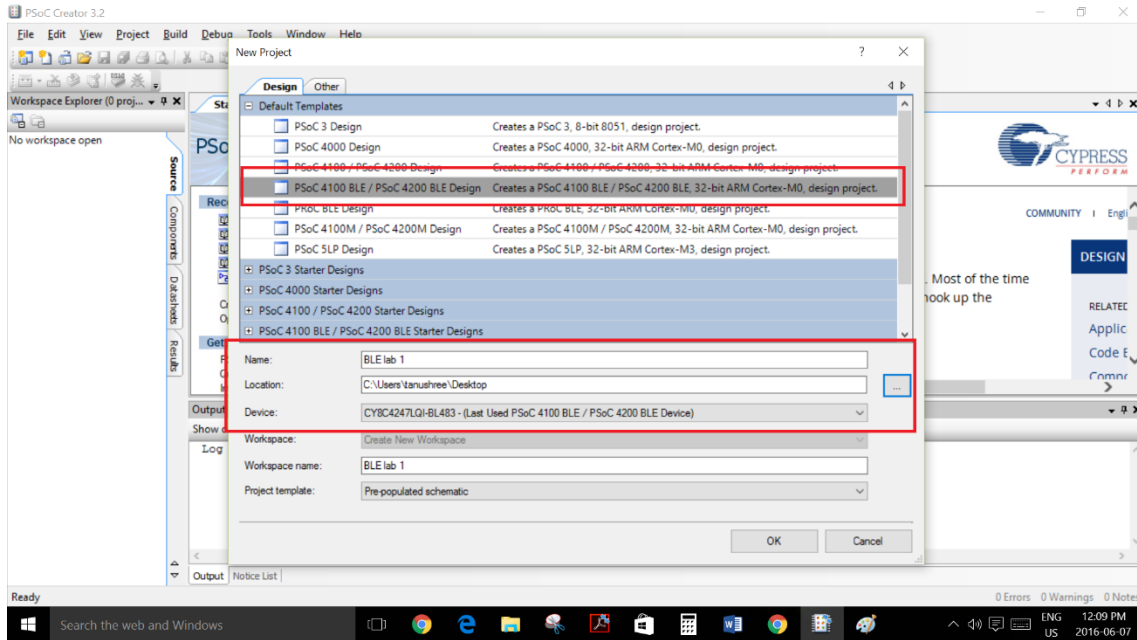

Figure 2: BLE Template
3. The File Name given is "BLE Lab 1" as shown in Figure 2.